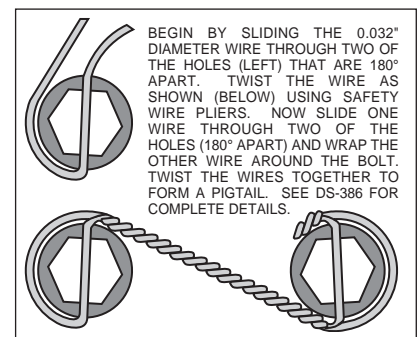

Figure 6. Safety Wire Diagram
- With the slot pointing upward and the mounting ears pointing towards the rear of the vehicle, install the caliper mounting bracket (1) to the axle housing flange using the stock Original Equipment Manufacturer (OEM) bolts and nuts. Stock OEM hex nuts that retain the bracket (1) should be on the wheel side of the bracket. Apply red *Loctite*® 271 to the stock OEM bolt threads and torque to OEM specifications. **NOTE:** Some brackets act as the bearing retainer, while others help locate the bearing in the axle housing flange. Make sure the heads of the caliper mounting bracket insert nuts are FACING OUTWARD TOWARDS THE WHEEL.
- The rotor (3) has two sides. A flat side and an inset side. Bolt hat (2) to flat side of rotor (3) using bolts (5). Using an alternating sequence, apply red *Loctite*® 271 to the threads and torque bolts to 25 ft-lb. For an added measure of security, the bolts may be safety wired using standard 0.032 inch diameter stainless steel safety wire as shown in Figure 6. Please refer to Wilwood's data sheet DS-386 for complete safety wire installation instructions.
- Align the correct hole pattern in the hat (2) with the stud pattern on the axle flange. **NOTE:** Some OEM and after market axles come with stud sizes larger than 0.50" diameter. Verify stud size and have a qualified machine shop drill the hats to the correct size. Slide the hat/rotor assembly (2 and 3) over the wheel studs and against the axle flange face.
- NOTE:** Please reference the caution statement at the beginning of the assembly instructions. Mount the caliper (6) over the rotor (3) and onto the caliper mounting bracket (1) using the washers (7) and mounting bolts (8). View the rotor through the top opening of the caliper. The rotor should be aligned in the center of the caliper. If not, adjust the caliper by using 0.032 inch shims (9) by placing them between the caliper mounting bracket (1) and the caliper (6). Add as many shim washers (9) as necessary to achieve the correct alignment. **NOTE:** The end of the bolt must be flush with or slightly protruding from the head of the clinch nut. See Figure 6. Place spare shims (9) between washer and caliper mounting ear to achieve the proper mounting fastener configuration. Always use the same amount of shims on both the top and bottom caliper mounting bolts (8). Apply red *Loctite*® 271 to the mounting bolt threads (8), torque to 30 ft-lb. Caliper mount bolts may be safety wired for additional security.
- Position the Wilwood disc brake pads (10) into the caliper (6) and fasten with cotter pin (4). Steel backing plate side of brake pad should face the caliper pistons.